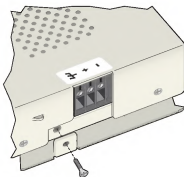
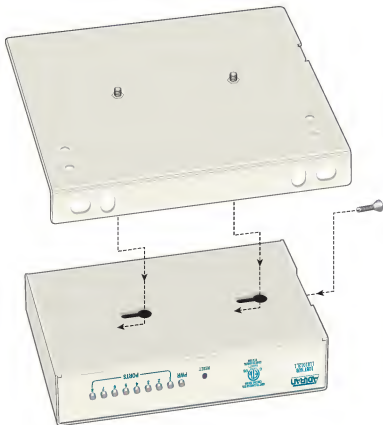

Figure 3. Side Panel Terminal Block
Figure 4. Wall-mount Attachment Assembly
- Power connections are made to a terminal block located on the side panel of the 10Base-T Hub (see Figure 3).
The 10Base-T Hub ships pre-assembled to the external mounting bracket, and unassembled from the internal mounting bracket. It is necessary to disassemble the 10Base-T Hub before installing on a wall or in a rack. See Figure 3 and Figure 4 for details on disassembling and assembling the 10Base-T Hub.
The 10Base-T Hub ships pre-assembled to the external mounting bracket, and unassembled from the internal mounting bracket. The 10Base-T Hub must be disassembled before performing the following instructions. See Figure 3 and Figure 4 for details on disassembling and assembling the 10Base-T Hub.
1. Remove the hub from the external mounting bracket by removing the flathead screw near the power connector that secures the hub to the bracket. Slide the hub away from the tab and lift off the bracket (see Figure 4).
- Remove the hub from the external mounting bracket by removing the flathead screw near the power connector that secures the hub to the bracket. Slide the hub away from the tab and lift off the bracket (see Figure 4).